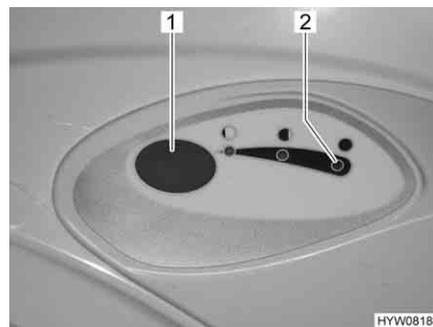

Fig. 260 Flush button/indicator lamp Thetford toilet
- For flushing, press the blue flush button (Fig. 260,1).
The indicator lamp (Fig. 260,2) lights up whenever the sewage tank has to be emptied.